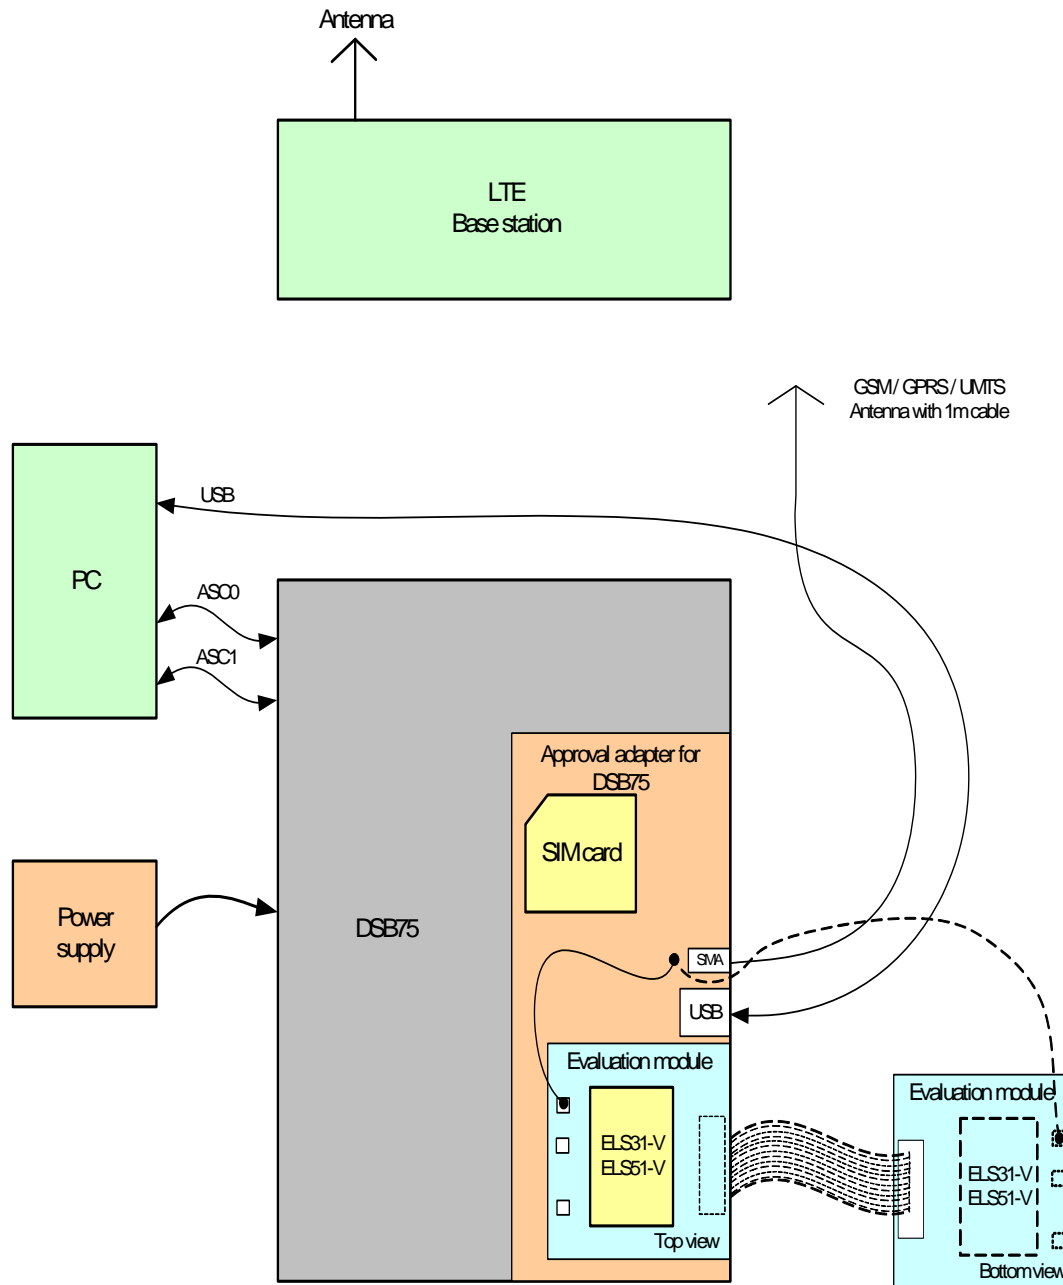

Figure 10: Reference equipment for Type Approval
1. For RF performance tests a mini-SMT/U.FL to SMA adapter with attached 6dB coaxial attenuator is chosen to connect the evaluation module directly to the GSM/UMTS test equipment instead of employing the SMA antenna connectors on the ELS31-V- / ELS51-V-DSB75 adapter as shown in Figure 10. The following products are recommended: